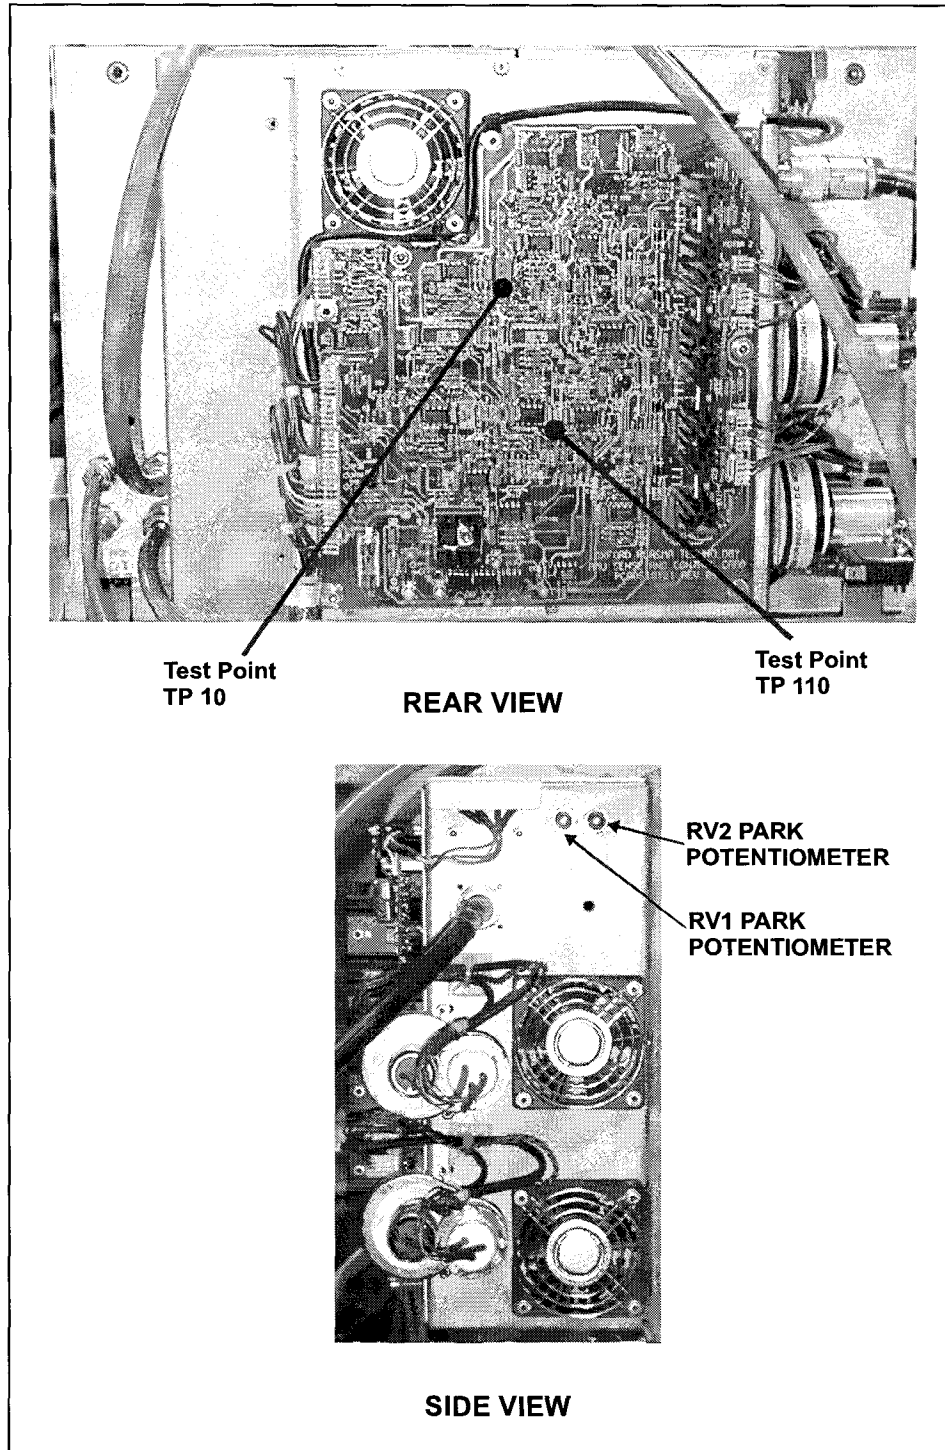

Fig 6: Automatch components
- 2) Open the automatch cover to reveal the automatch PCB (see Fig 6).
- 5) Refer to Fig 6 (page 25). Measure the DC voltages On the 'Automatch PCB', test point TP10 and TP110. These are monitoring points for the error signals which drive the variable capacitors. (0 to10V range). Adjust the potentiometers RV1 and RV2 iteratively until both voltages are as close as possible to zero volts.